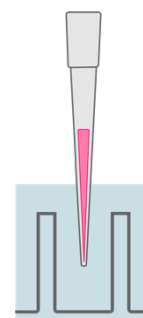

Figure 3. Step 5 – submerging pipette tips in the well ^[3]
- Submerge pipette tips into the well before dispensing PCR product (Figure 3)